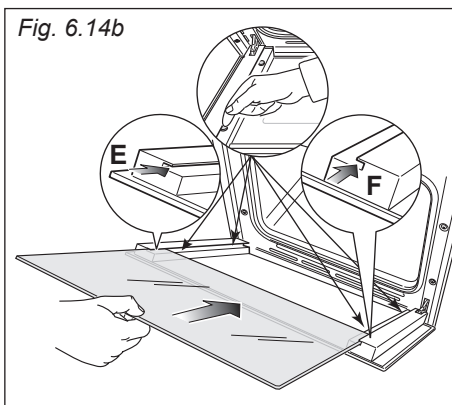
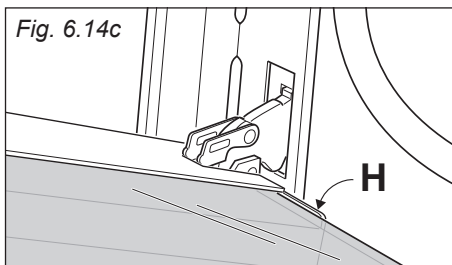

Fig. 6.14b
Fig. 6.14c
IMPORTANT: It is advisable, while refitting the glass, to keep pressed in position the four rubber pads "D", by a finger, to avoid breakage or slippage of the rubber pads themselves (fig. 6.14b).
- Insert the pane in the left "E" and right "F" slide guides (fig. 6.14b), and gently slide it to the retainers "H" (fig. 6.14c).